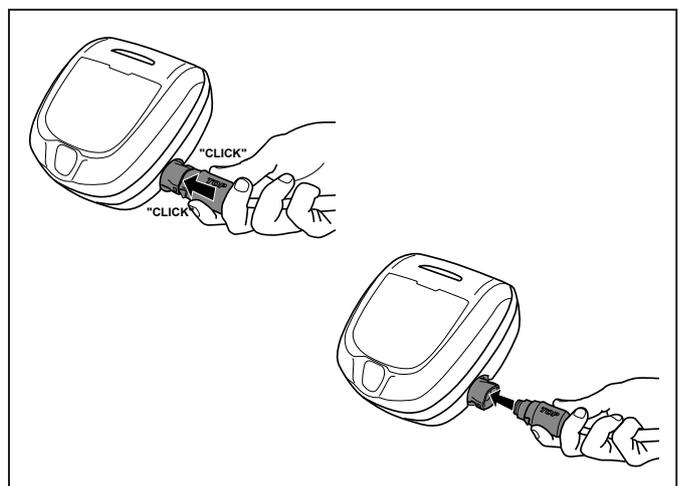

Figure 10. Remove Protective Cap and Connect Power Cable
2. Grip the notched end of the floating power cable, insert into the Control Unit and click to lock (Figure 10).